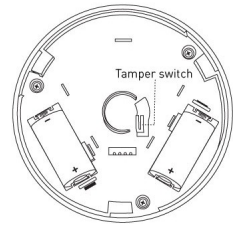

Figure 4
5. Enroll the Glass Break Detector by pressing and holding the tamper switch for 2 seconds (see *Figure 4*).
**WARNING! The polarity of the battery must be observed, as shown (See *Figure 4*). Improper handling of lithium batteries may result in heat generation, explosion or fire, which may lead to personal injuries. Replace only with the same or equivalent type of battery as recommended by the manufacturer. (see *Specifications*)**